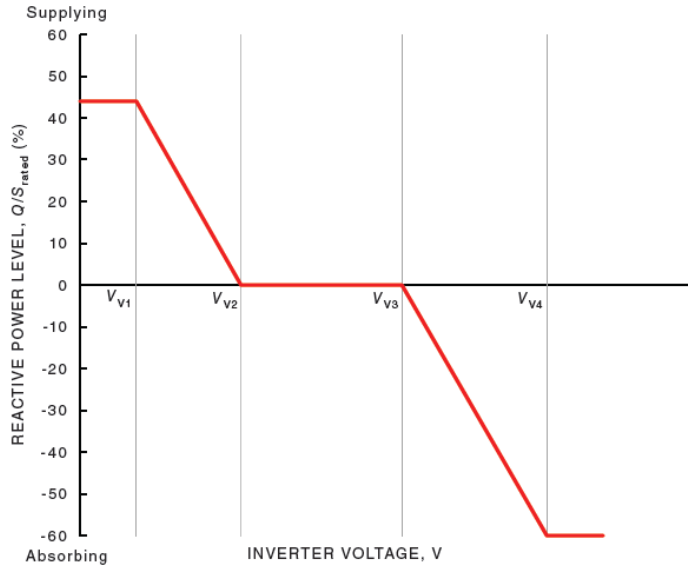

Figure 6-3 Example curve for the volt-var control mode
2. The inverter is expected to provide a volt-var response as per Figure 6-3.